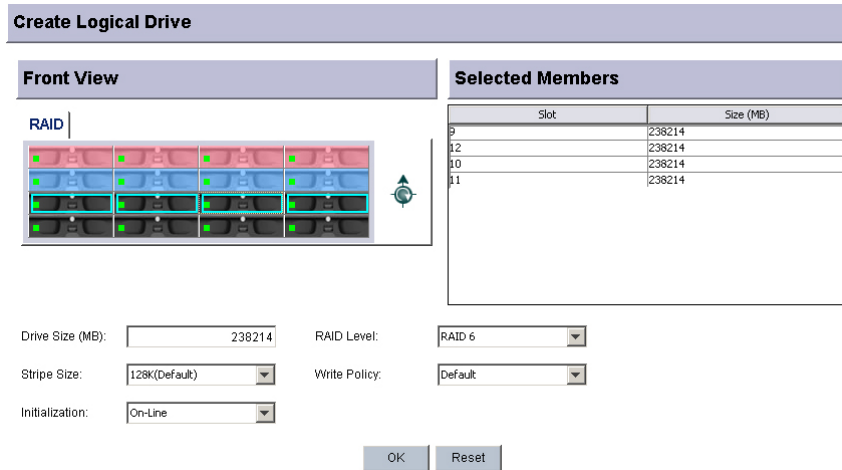

Figure 9-2: The Create Logical Drive Window
**Step 2.** The configuration screen shown in *Figure 9-2* should appear.